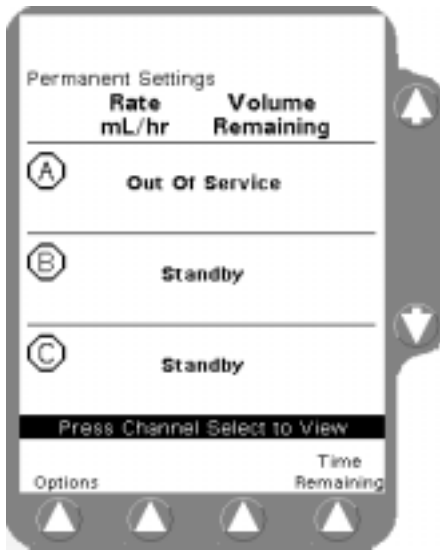

Figure 6-11 Channel Failure Display
3. The Main Display shows that the pump channel is out of service (Figure 6-11). The pump channel cannot be used to deliver infusions, but you can still use the **Volume History** key to retrieve history information.